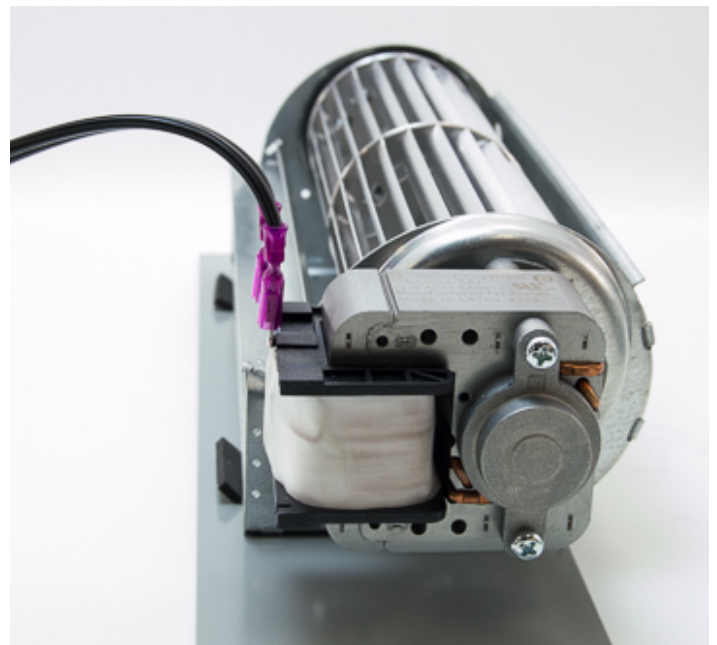

Figure: 1 • Does not matter which metal tab you connect the black wires to.
Step 2: Connect black wires of the cord set to either of the spade terminals attached to the motor. Push disconnects onto metal tabs. (Figure: 1)